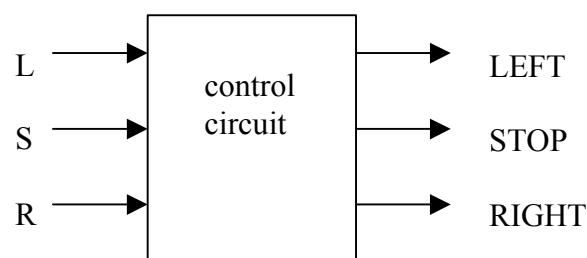

Fig. 2 Control circuit for inertial two-directional engine
2. Implement as microprogrammable circuit in a chosen by the supervisor structure (without or with 2 multiplexers of condition), a circuit controlling the operation of the inertial two-directional engine (fig 2). The engine can start to rotate only if it is stopped ($RIGHT = 0$, $LEFT = 0$, $STOP = 1$). The engine should start to rotate in right direction ($RIGHT = 1$) when button R is pressed for a short moment and it should keep rotating until button S is pressed. Pressing the R or L button when engine rotates right should be ignored. The engine should start to rotate in left direction ($LEFT = 1$) when button L is pressed for a short moment and it should keep rotating until button S is pressed. Pressing the L or R button when engine rotates left should be ignored. Similarly pressing S button when engine is stopped should not change its state. Pressing it when engine rotates in any direction should stop it by assigning outputs: $RIGHT = 0$, $LEFT = 0$, $STOP = 1$. Since all input buttons are monostable radio ones, it is assumed that only one of buttons S, L, R can be equal to one at a time.